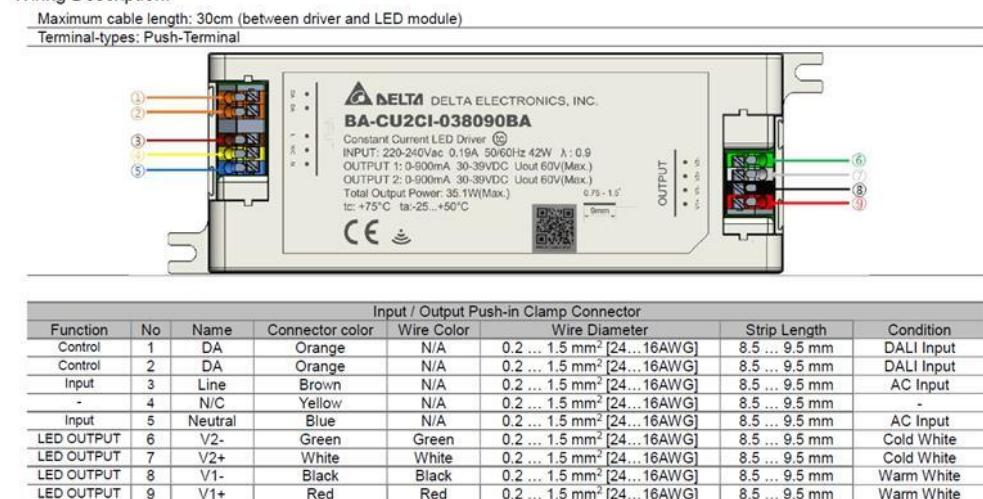

Figure 30: LOYBT-LEDDRV: terminals and wiring.
- Check the terminal description in Figure 30.